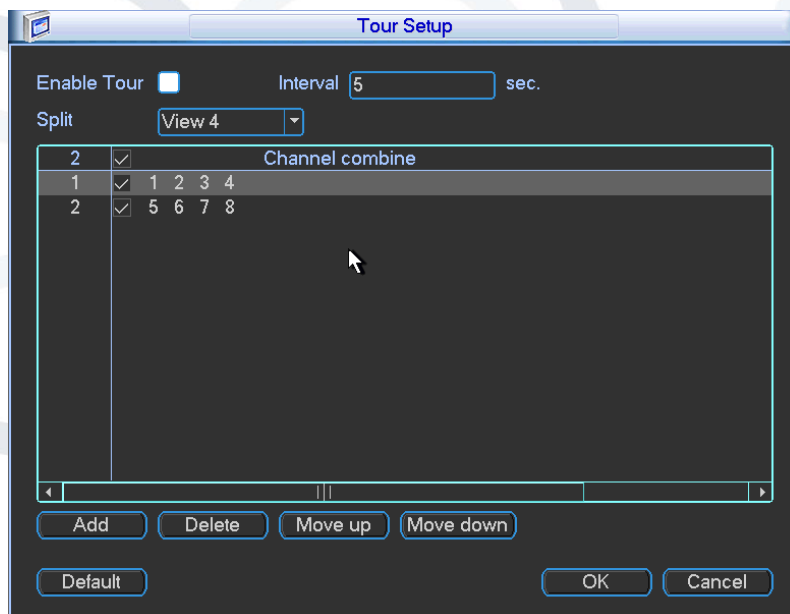

Figure 5-42
- **Tour setup:** Here you can activate tour function. Click Setup button, you can see an interface shown as in Figure 5-42.